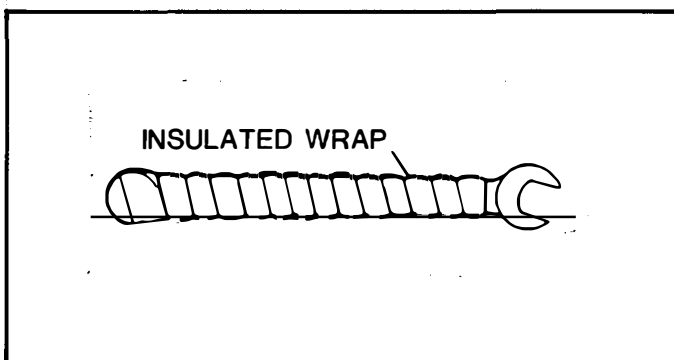

FIG. H-2 INSULATED WRENCH
**WARNING: BEFORE PROCEEDING, REMOVE ALL JEWELRY, RINGS, WATCHES, ETC., AND WRAP ALL WRENCHES IN VINYL INSULATING TAPE (FIG. H-2) TO ELIMINATE THE POSSIBILITY OF A SHORT CIRCUIT SHOULD THE OPPOSING TERMINALS BE "SHORTED OUT" OR CONTACTED TO THE FRAME. A SHORT CIRCUIT COULD RESULT IN AN EXPLOSION AND SEVERE PERSONAL INJURY.**
Remove the wiring from each battery using an **INSULATED WRENCH** (Fig. H-2) and remove the two battery hold downs. Remove the batteries using a battery removal tool.